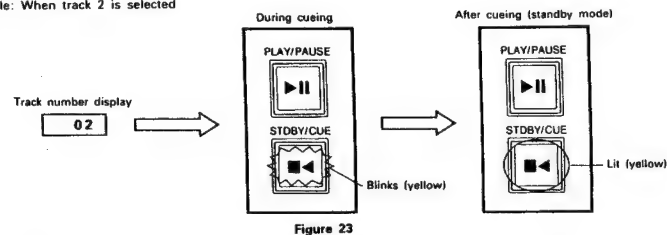

Figure 23
- When a track is selected, that track number is displayed and cueing is performed. (Figure 23)